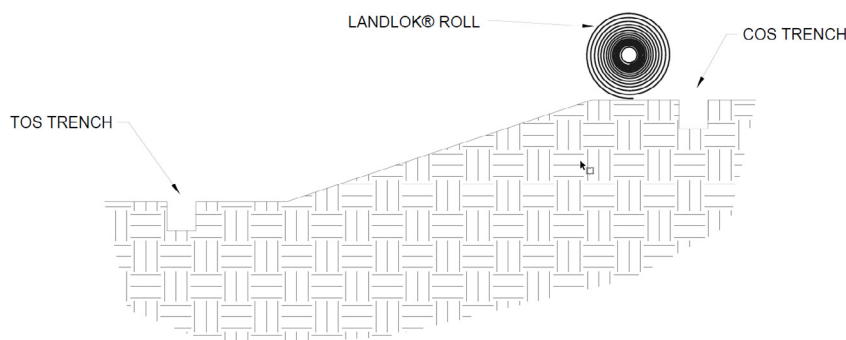
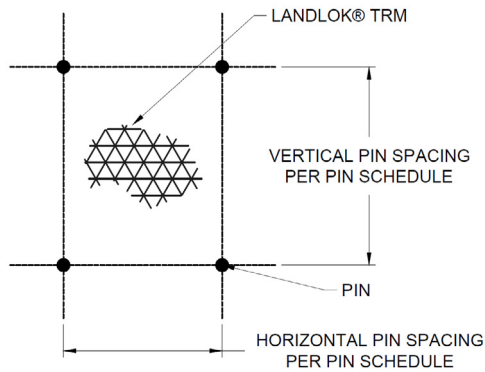
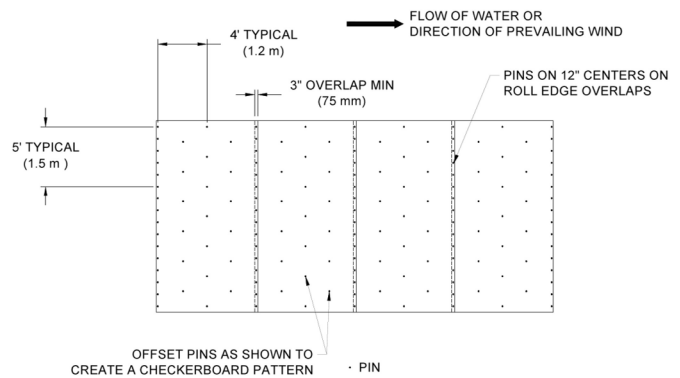

Figure 3: Crest of Slope (COS) Trench Alignment
Figure 7: Example Pin Pattern
Figure 8: Example of Panel Overlap
2. Starting at the COS trench, lay **PROPEX** Landlok TRM roll so that the roll ends point towards the crest of the slope (Figure 3), with a 3 in (75 mm) overlap created at adjacent panel edge locations. Ensure that adjacent panel edges maintain a minimum 3 in (75 mm) overlap during **PROPEX** Landlok TRM laydown. (Figure 8)
6. Secure TRM panels in place using pins across the slope surface according to the project's engineered design. Pin placement should reflect a staggered checkerboard pattern across the slope surface for best results (Figure 7 and Figure 8).
- Roll edges shall be overlapped a minimum of 3 in (75 mm) and a maximum of 6 in (150 mm) with pins placed on 12 in (300 mm) centers (Figure 8).
9. Continue to work down the length of the slope by repeating steps 1 through 8 overlapping each adjacent TRM panel by 3 in (75 mm) (Figure 8). The last TRM panel should terminate on the Slope Armoring Edge (SAE) with pins on 12 in (300 mm) centers. At a minimum, TRM panels should be pinned entirely across the slope surface, pins should be installed in the trenches, and the trenches should be backfilled and compacted at the end of each day to minimize rework in the case of a major rain event. Specific project conditions may warrant further evaluation of installation order for ease. An example isometric view (Figure 13) of a slope armored with **PROPEX** Landlok TRM can be seen below for overall reference. Consult Solmax Engineering Services at [smatch@solmax.com](mailto:smatch@solmax.com) or 706-693-2226.